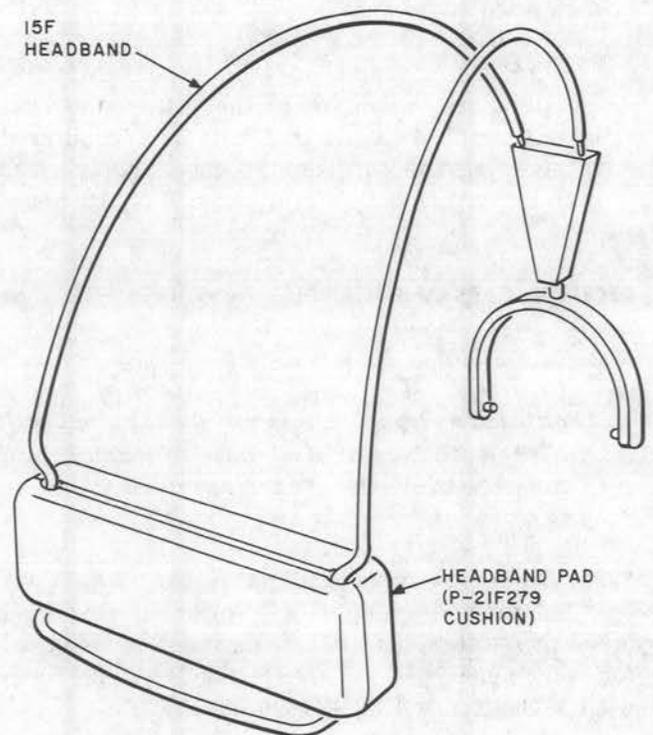

Fig. 11—P-21F279 Cushion in Position on Headband
**4.11 Headband Pad:** (Fig. 11)—To replace the headband pad, proceed as follows:
- (1) Remove the old pad from the headband.
- (2) Substitute the new pad and pass the free end of the headband through the slot of the pad, making sure the thicker side of the pad is on the inner side of the headband as shown in Fig. 11.